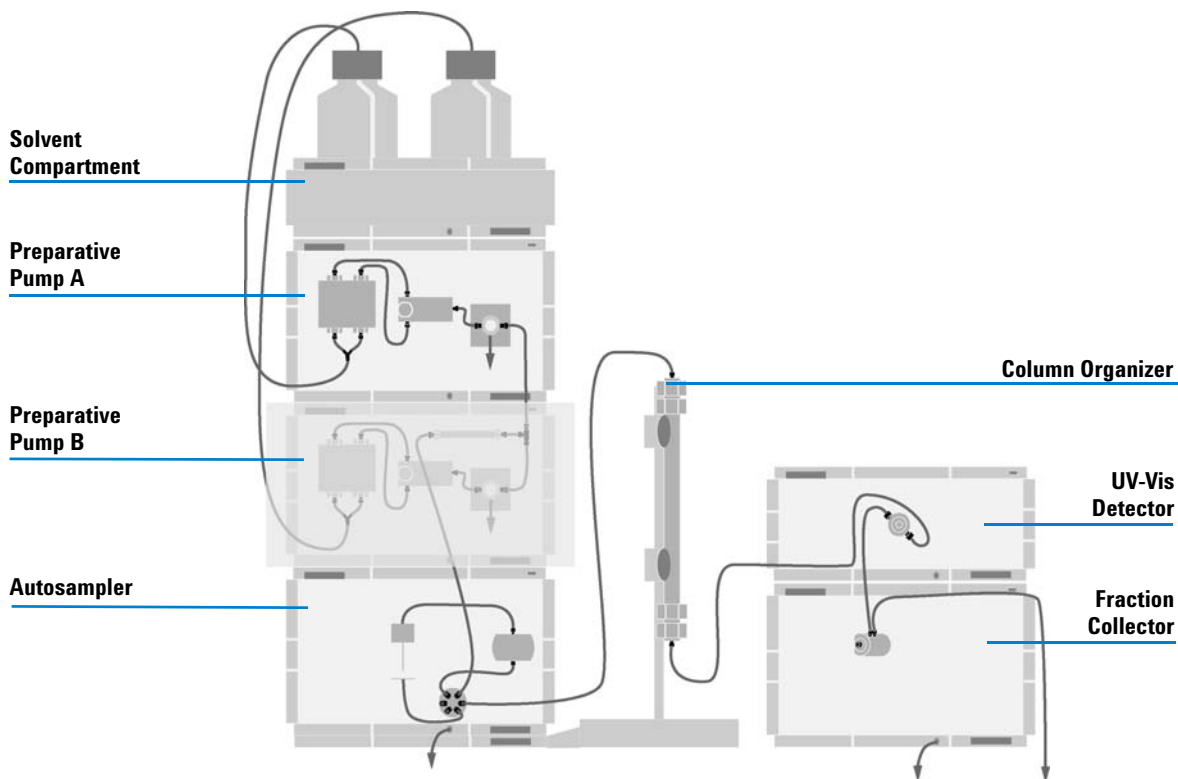
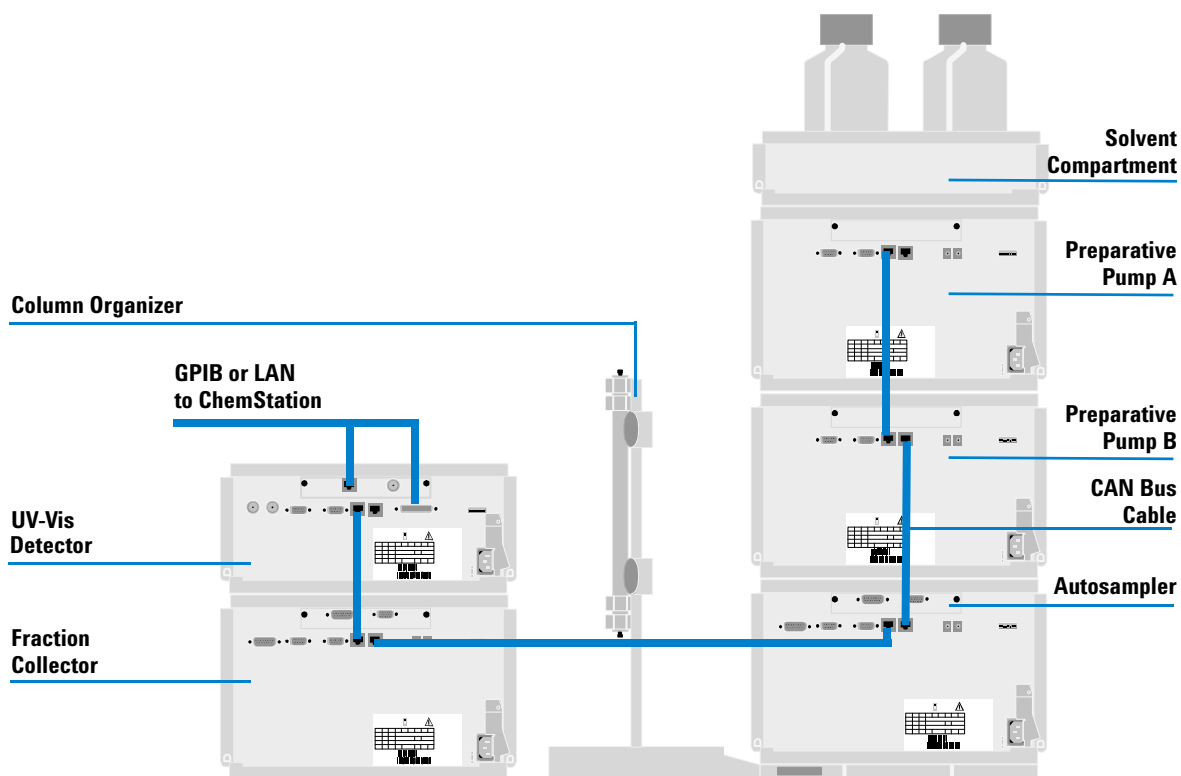

Figure 3 Recommended Stack Configuration - Fraction Collector in a Preparative System (Front View)
Figure 4 Recommended Stack Configuration - Fraction Collector in a Preparative System (Rear View)
- Figure 3 on page 16 and Figure 4 on page 17 show the configuration recommended for the Fraction Collector with a preparative scale system.